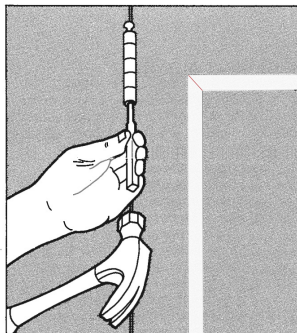

Figure 4-1
4. You will begin by removing the old door. Most standard doors are usually hung with two piece hinges. Using the center punch and the hammer, strike the pins holding the hinges from their underside. This will cause them to pop up a few inches from the top of the hinge joint (Figure 4-1).